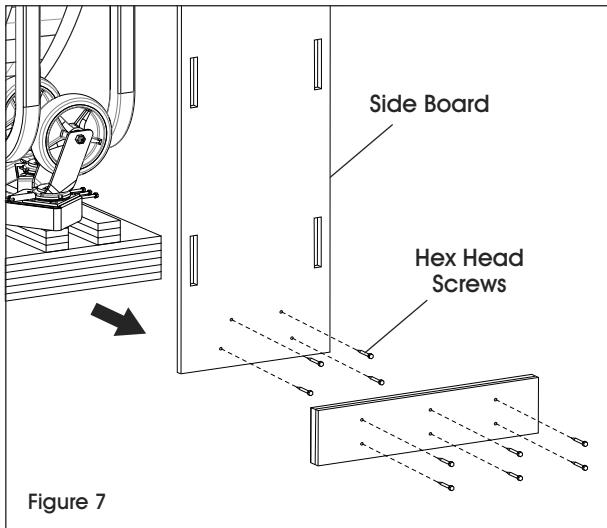

Figure 7
5. Remove the hex head screws fixed to side boards using a 10 mm wrench and pull out the side boards. (See Figure 7)